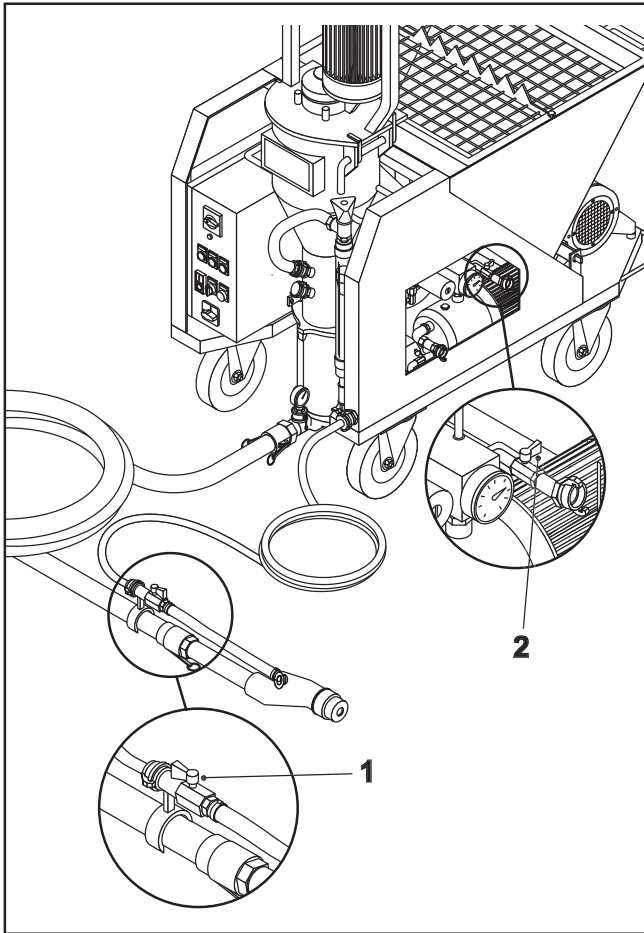

FIG.17
- Check that the air cock (FIG.17-REF.1) to the gun is open and the water utility cock (FIG.17-REF.2) is closed.